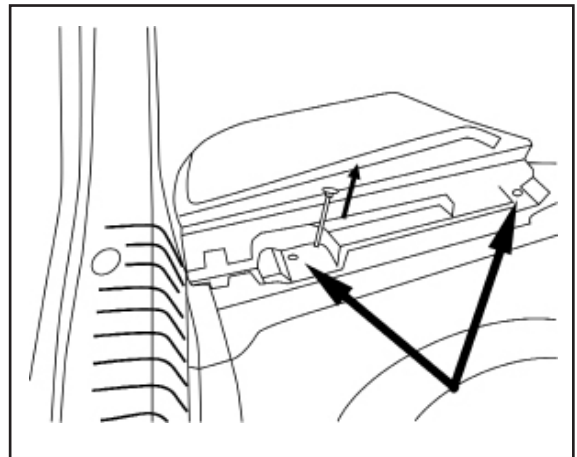

Fig. 1
5. Remove the 2 left push-pin retainers then remove the left side plastic trunk tray. (Fig. 1)